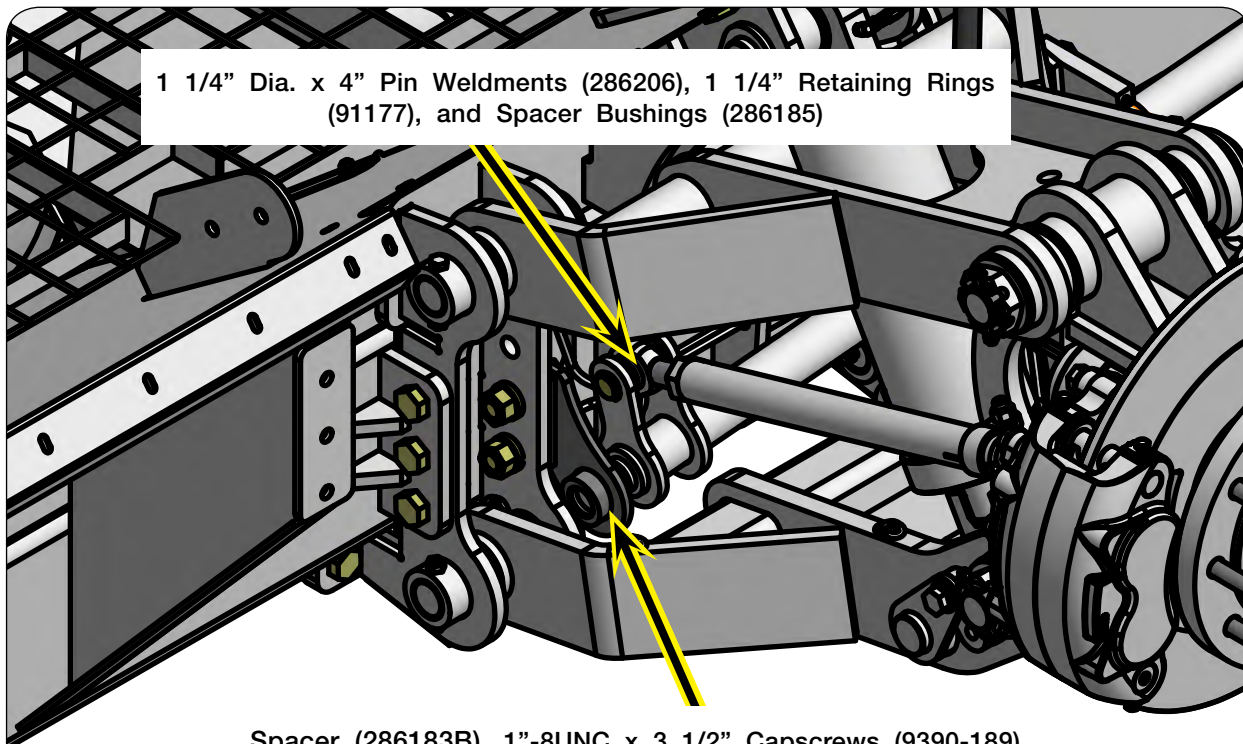

FIG. 1-25
22. Secure the rear of the right-hand rocker link weldment (286131B) with right-hand pivot bushing weldment (286175B) to the rear, right-hand steering linkage assembly with previously removed 1"-8UNC x 3 1/2" capscrows (9390-189), 1" lock washers (9404-042), and 1"-8UNC hex nuts (9394-020). (FIG. 1-25)
23. Secure the rear of the right-hand rocker link weldment (286181B) to the tie rod assembly with previously removed 1 1/4" Dia. x 4" pin weldment (286206), 1 1/4" retaining ring (91177), and spacer bushings (286185). (FIG. 1-25)